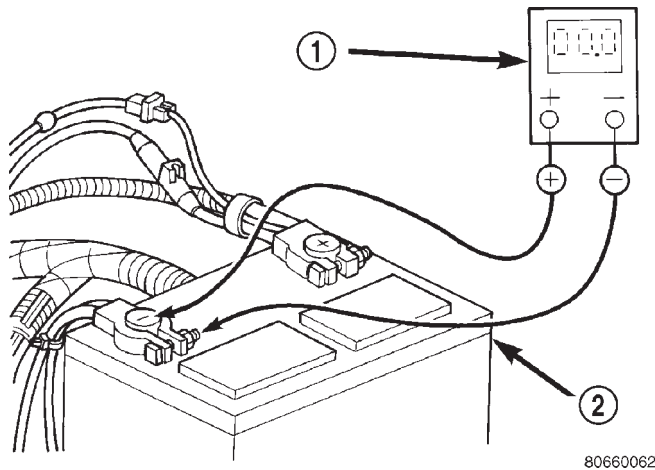

Fig. 4 Test Battery Negative Connection Resistance - Typical
(1) Connect the positive lead of the voltmeter to the battery negative terminal post. Connect the negative lead of the voltmeter to the battery negative cable terminal clamp (Fig. 4). Rotate and hold the ignition switch in the Start position. Observe the voltmeter. If voltage is detected, correct the poor contact between the battery negative cable terminal clamp and the battery negative terminal post.